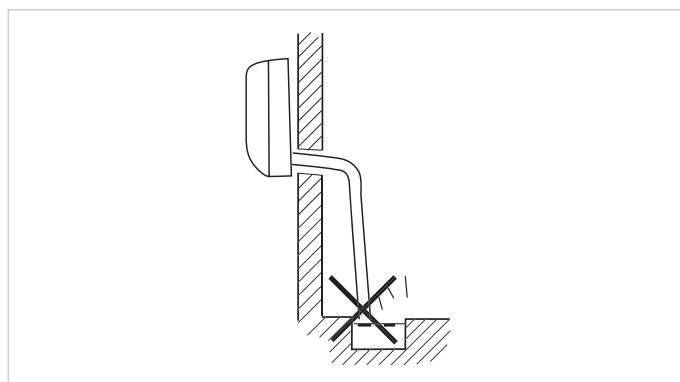

**Fig. 9.4 Minimum distance from the floor.**
- For drain pipes run to ground level outside, install the condensed water pipe in such a way that the distance of its free end from the floor is at least 5 cm (see Figure 9.4).